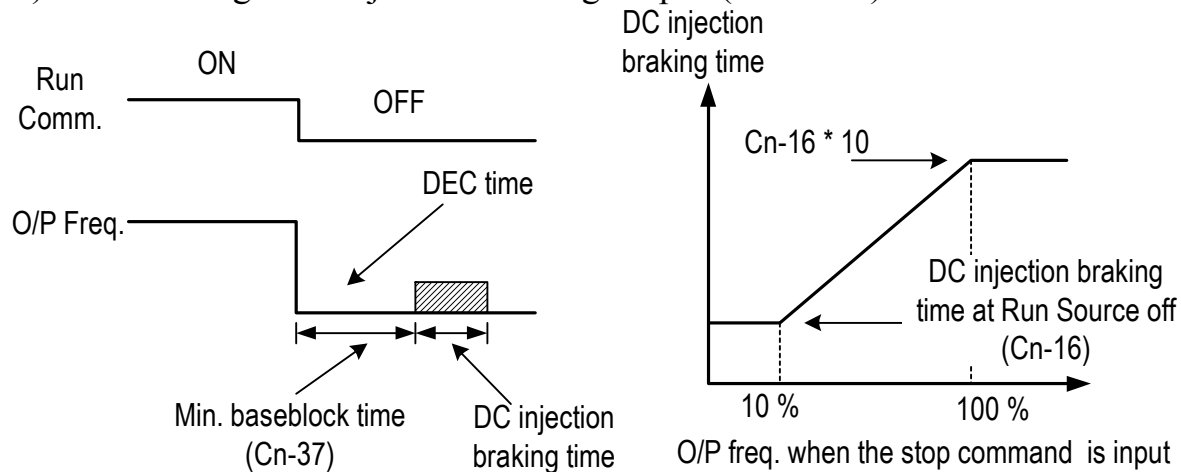

Fig. 31. Whole range DC Injecting Braking Stop
- The DC injection braking time depends upon the output frequency when the stop command is input and the “DC injection time at stop” setting (Cn-16) as shown in Fig. 31.
- Lengthen the minimum baseblock time (Cn-37) when an overcurrent (OC) occurs during stopping. When the power to an induction motor is turned OFF, the counter-electromotive force generated by the residual magnetic field in the motor can cause an overcurrent to be detected when DC injection braking is applied.